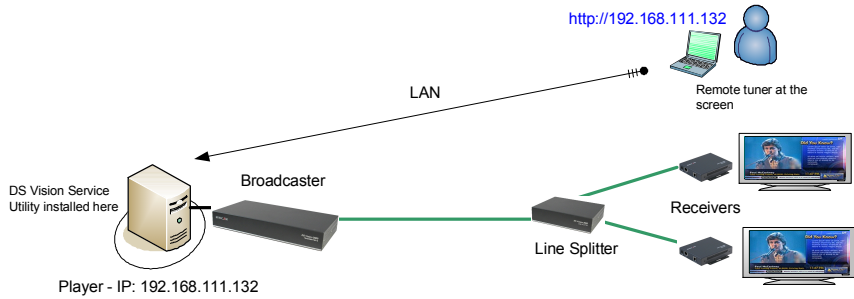

Figure 26 Remote tuning
You can tune the Receiver Long and Line Splitters from any laptop or other mobile device via a web browser. Through the browser you access the player running the Service utility via the local network. This enables you to tune the screen when standing in front of it without the need to be physically connected to the Receiver Long / Line Splitter. The Service Utility must be installed on the players but is not needed on the remote tuning device. Figure 26 illustrates the basic concept.
1. Open a browser and type the IP address of the player. For example in Figure 26 the remote tuner accesses the tuning facility by typing the IP address <http://192.168.111.132>.